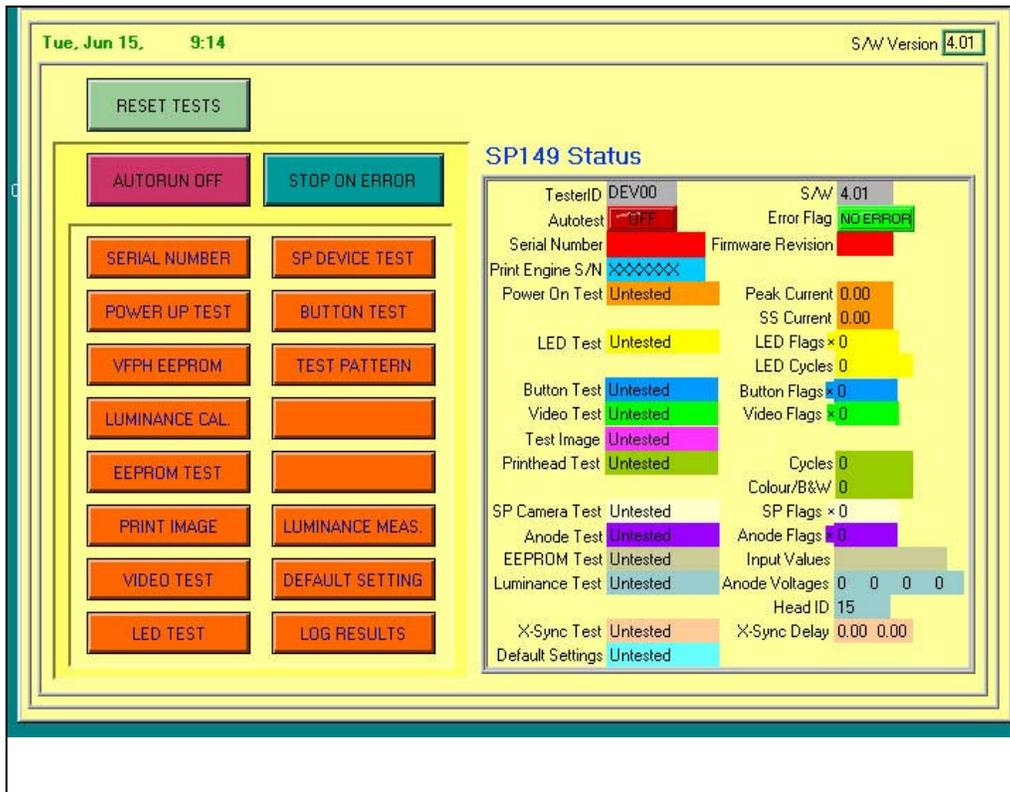

Figure 4 SP350 system functional test main screen
5. From the Functional Test main screen, choose LUMINANCE MEAS. (See Figure 4)